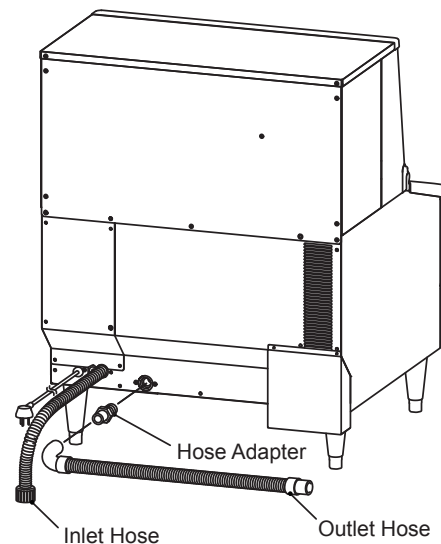

Fig. 3
- 2) Wrap P.T.F.E. tape around the hose adapter fitting, and screw the hose adapter into the drain outlet of the icemaker. Hand tighten grey flexible outlet hose (accessory) onto the hose adapter as indicated (Fig. 3). The pipe can be cut to length as necessary to suit position of main drain. To prevent water leaks, secure the outlet hose to the drain outlet by using a hose band.